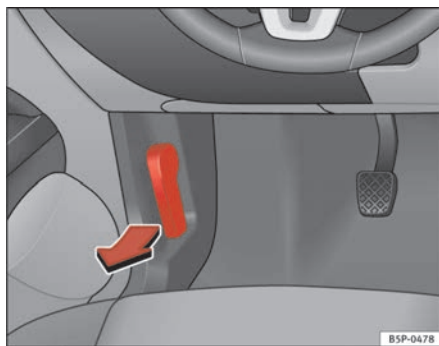

Fig. 136 Detail of footwell area on driver's side: lever for unlocking the bonnet.
- To release the bonnet, pull the lever under the dashboard ⇒ **fig. 136** in the direction indicated (arrow). The bonnet will be released by a spring action ⇒ **!**.